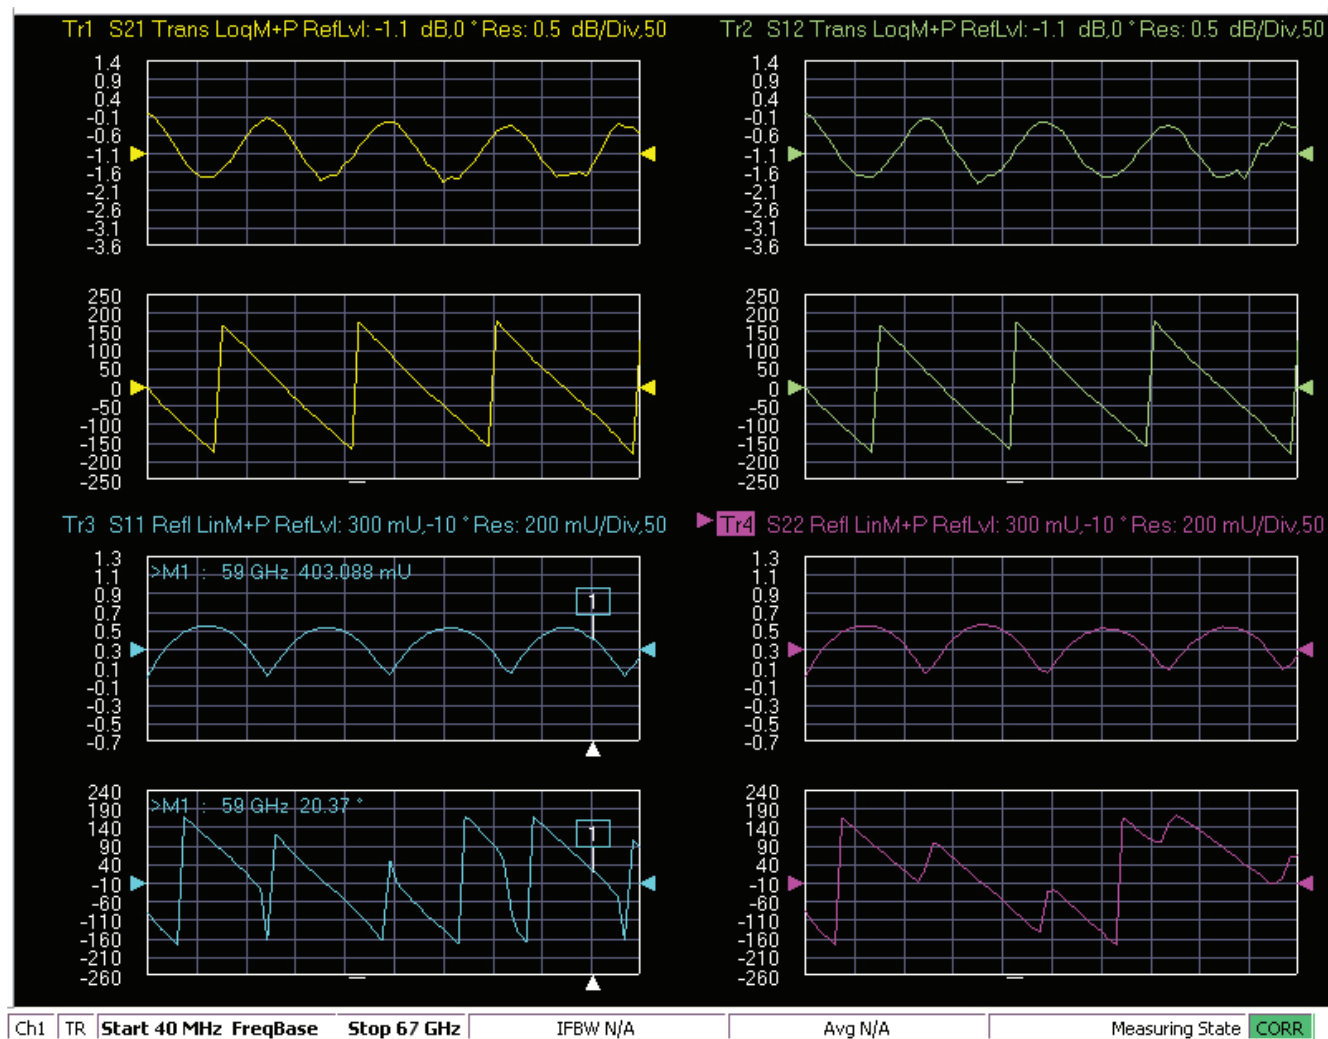

Figure 4-46. MS4640A/B Series VNA, Typical Mismatched Thru Data in Low Band
7. When the test completes, the program returns to the main menu described Section 4-9 “Application Interface – Main Menu Tab” on page 4-23, and the display should look similar to Figure 4-46. This is a typical display immediately after measuring the Mismatched Thru in the Low Band. Please note this is for reference only and that the actual data on the VNA display may not be identical.